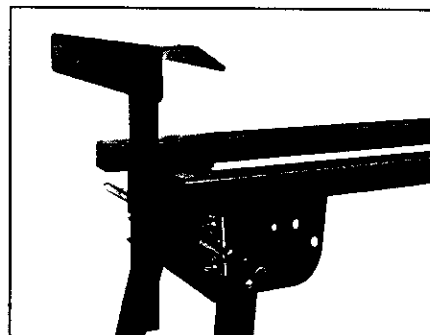

Figure 8
12. Thread 5/16" - 18 x 1/2" 3-point knobs into the outrigger ends. Install support T's as shown, secure with 3-point knob. Figure 8.